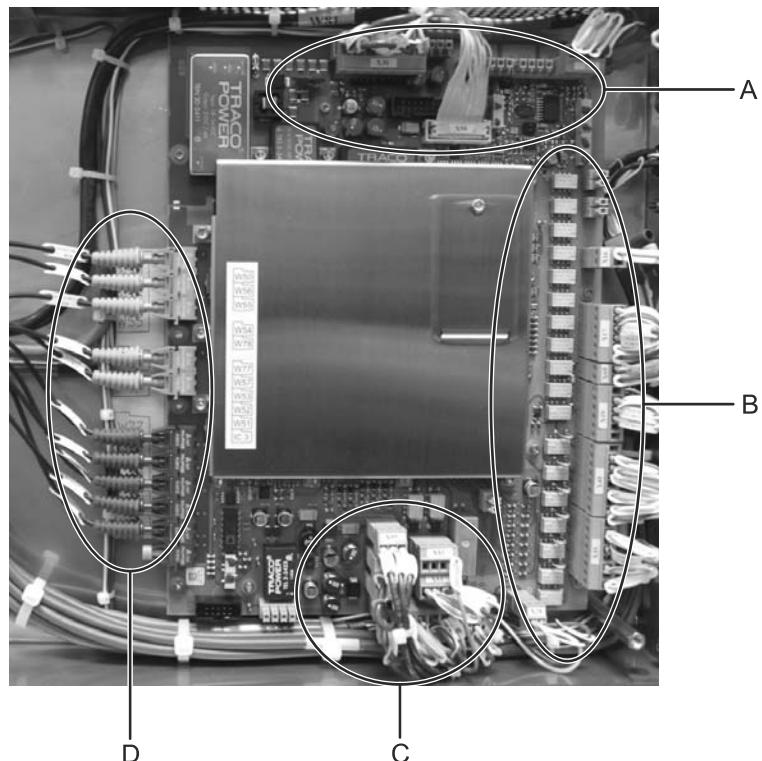

Figure 83: Location of LCB connections
9. Disconnect the FOLs (fiber optic light waveguides) from the connections on the LCB (see Figure 83, D).
10. Disconnect the electrical connections (connections with prefix X) from the LCB (see Figure 83, A-C).